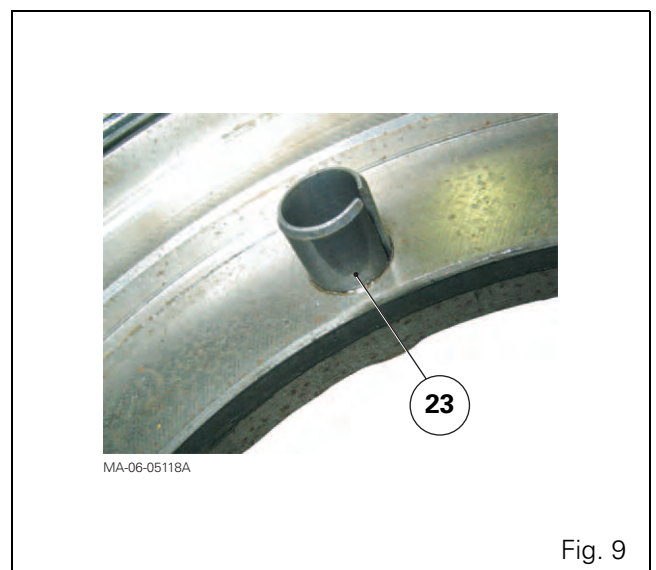

Fig. 9
19. Check for the locating pin (23) on the centre housing (Fig. 9).